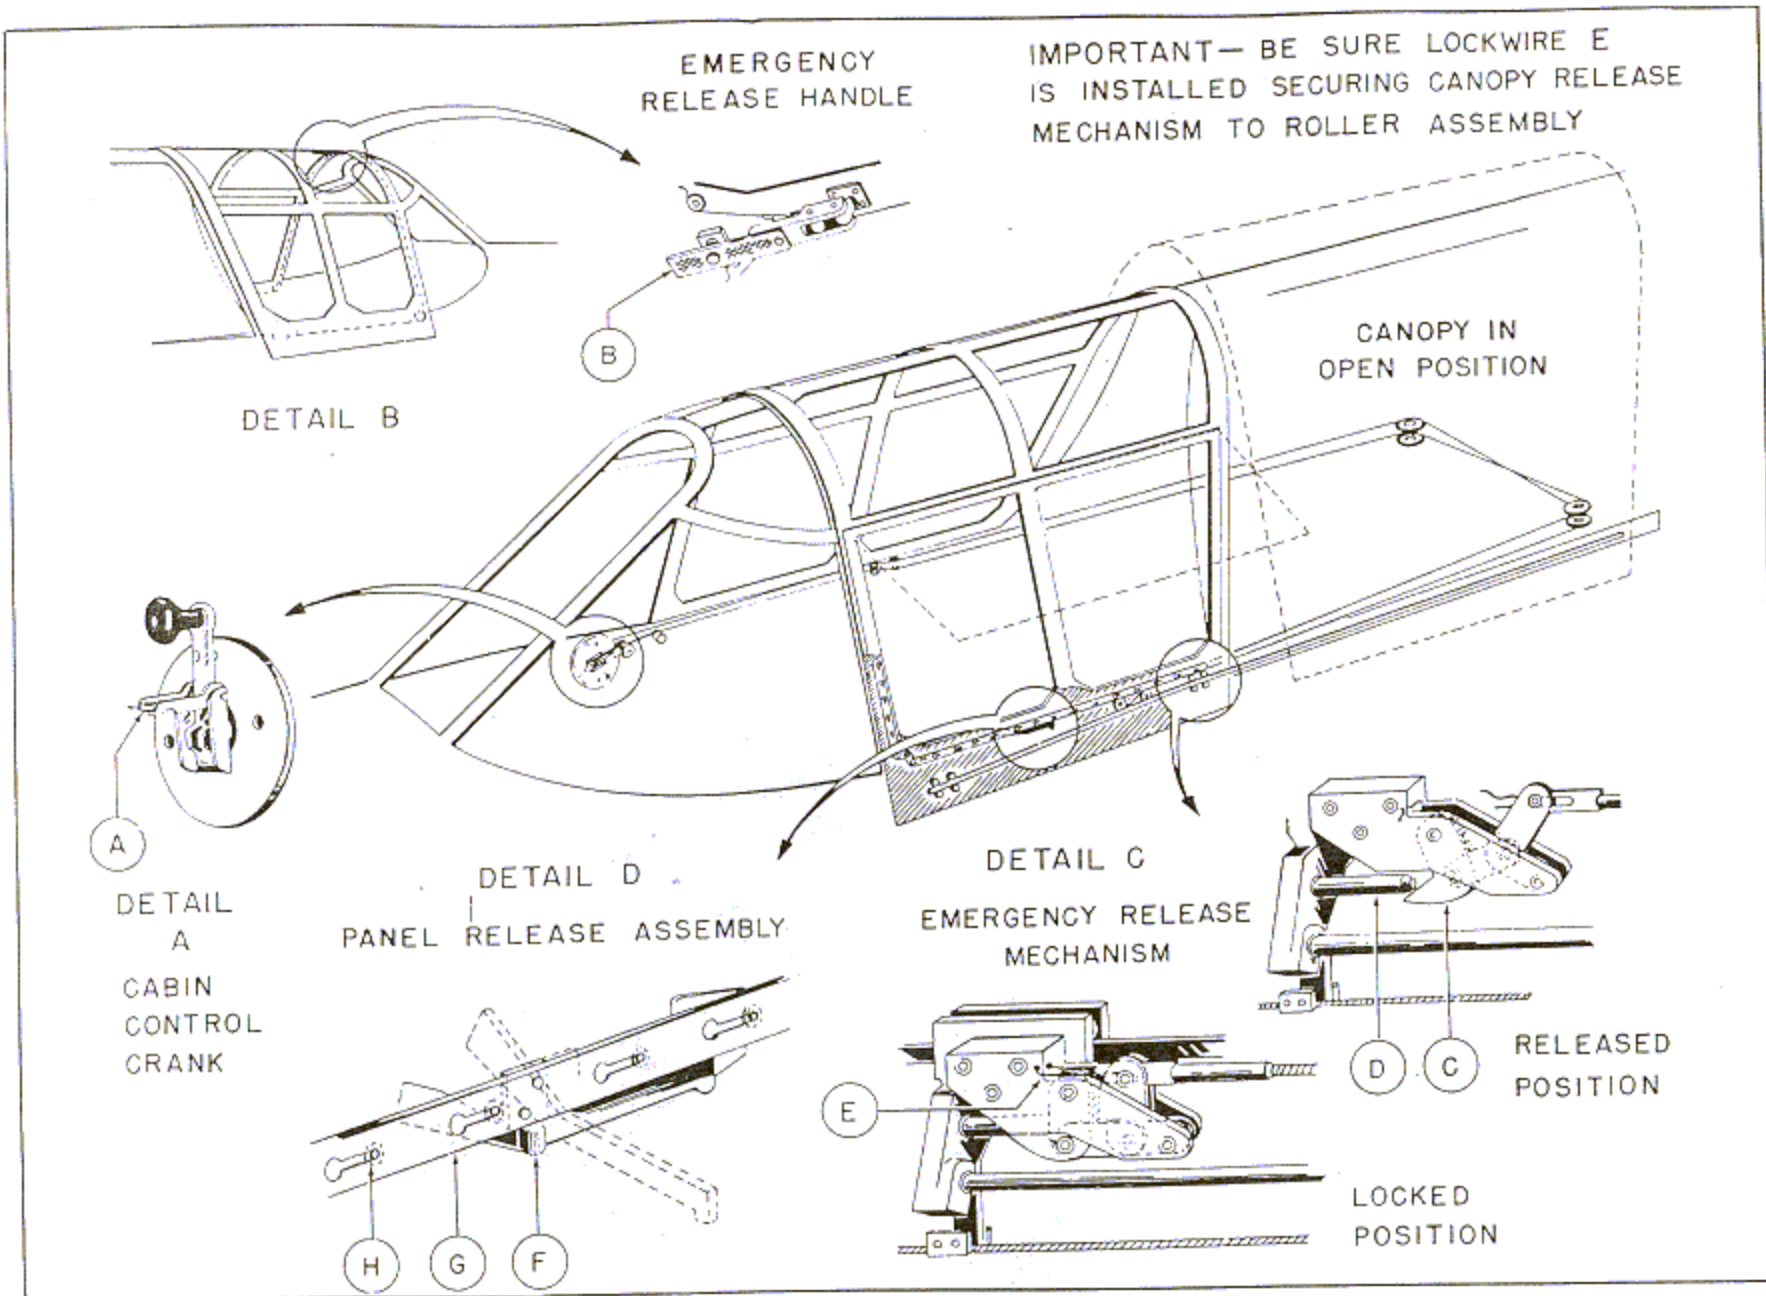

Figure 112—Canopy Controls (AF42-104429 through AF42-104828)
1. The canopy for airplanes AF-42-104429 through AF42-104828 consists of eight pieces of Plexiglas held in an aluminum alloy frame. An emergency escape panel is installed in the left side of the canopy which may be opened from either inside or outside the cockpit in the event of a turn-over on the ground. To open the escape panel from inside the cockpit pull the handle (F) (detail D, figure 112) inboard and aft to disengage the panel release assembly (G) from the studs (H) in the frame. The escape panel is opened similarly from outside the cockpit. Each corner of the canopy is mounted on a truck assembly which rolls on a track attached to the upper longeron. The canopy is moved to the forward or aft positions by a hand crank on the forward right side of the cockpit. The canopy is locked in position by engaging the pin on the control crank in a hole in the locking plate. (See detail A, figure 112.) The lever (A) on the control crank must be lifted to the horizontal position as shown in detail A, if the canopy is to be moved forward or aft by hand. The complete canopy may be released from the truck assemblies by pulling down on the emergency release handle (B). (See detail B, figure 112.) A force of at least 40 pounds is required to break the lockwire (E) which secures the canopy latch (C) on the rear pin (D) of the link rod assembly. (See detail C, figure 112.)